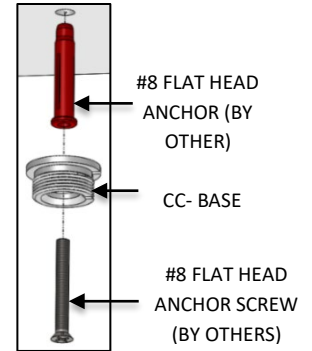

FIG. 17- HARD CEILING
- Install the CC-BASE to the #8 FLAT HEAD ANCHOR (by others) previously installed at the non-powered mounting location and secure with the #8 FLAT HEAD ANCHOR SCREW (by others) as shown in FIG. 17.